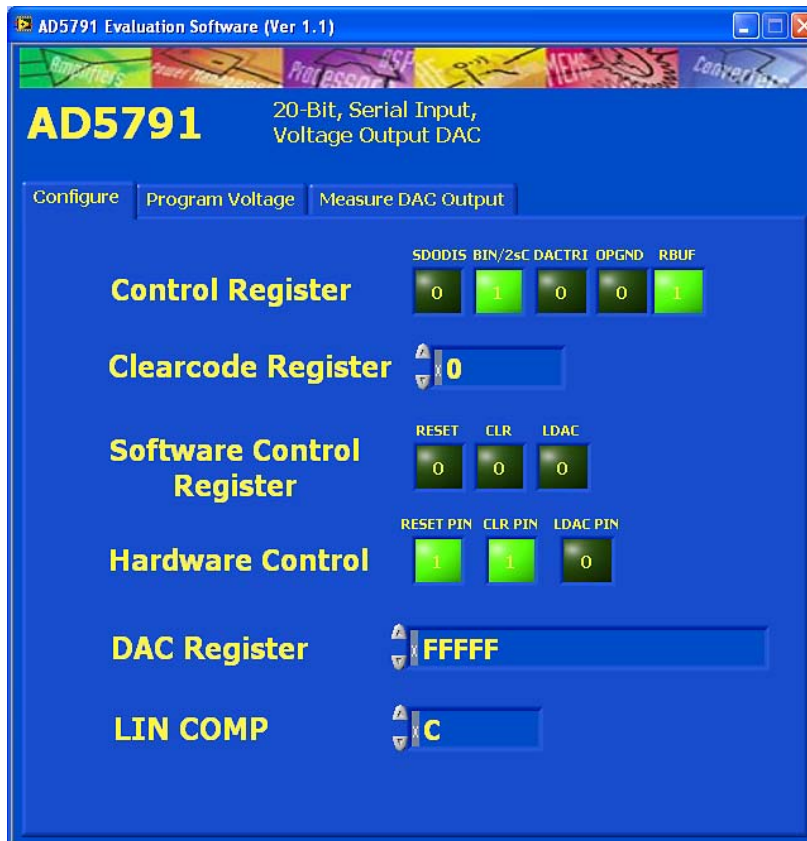

Figure 3. Main Window
1. From the **Start** menu, select **Analog Devices – AD5791 > AD5791 Evaluation Software**. The main window of the software is displayed (see Figure 3).
The **Configure** section allows access to the control register, clearcode register, software control register, and DAC register, and also allows control of the **RESET**, **CLR**, and **LDAC** pins as shown in Figure 3.